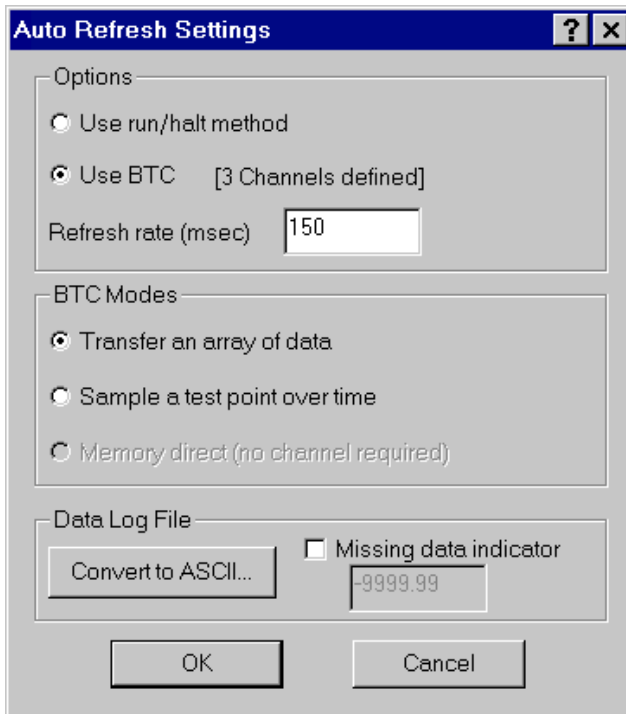

Figure 3-27. Auto Refresh Settings Dialog Box
3. Right-click in the **FFT In** plot window and select **Auto Refresh Settings** to open the **Auto Refresh Settings** dialog box, shown in Figure 3-27.